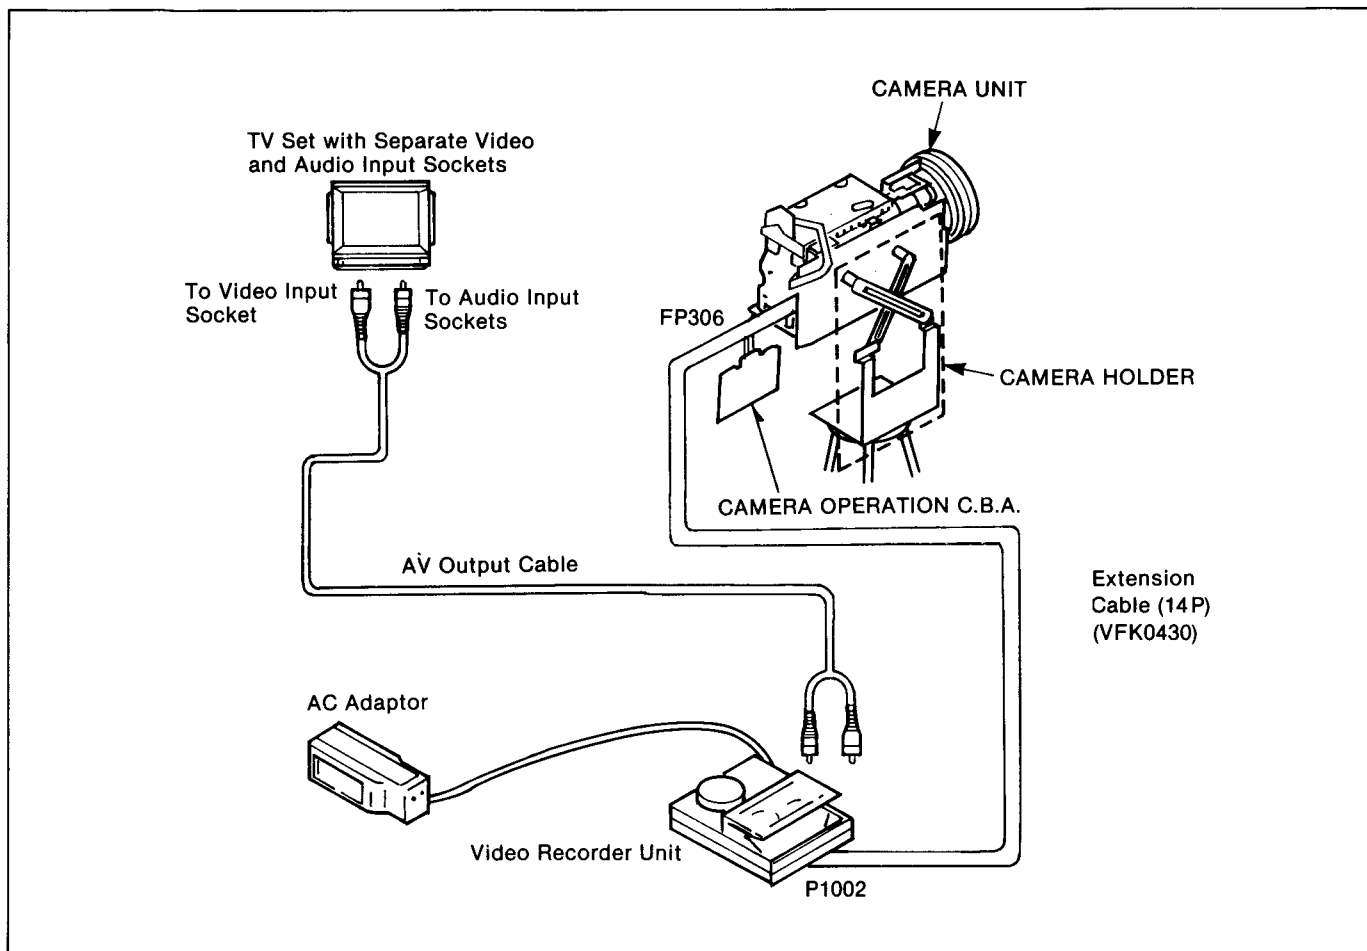

Fig. C3
3. Connect the Camera Unit, Video Recorder Unit, AC Adaptor, Camera Operation Unit and Color Monitor TV as shown in Fig. C3.